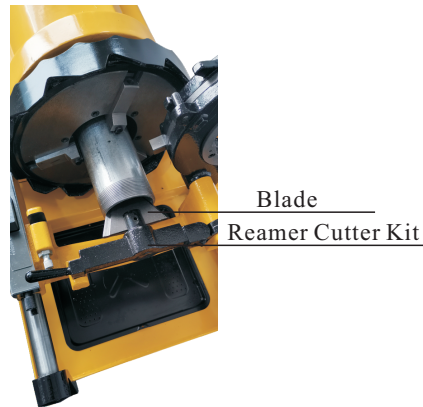

Fig.10
⑤ Inner Wall Beveling
- b. Start the machine. Move the Gearshift Hand to the top gear, rotate the sledge handle wheel and drive the Reamer Cutter Kit to the inside of pipe(See Fig.10)